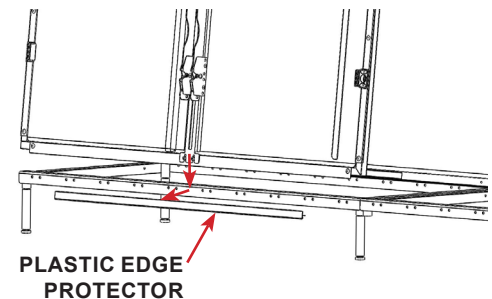

FIGURE 2.19 - Front Edge Guard
STEP 4: Lift the front of the cage to remove the red plastic edge guard. Slide the cage back against the front edge lip. See FIGURE 2.19